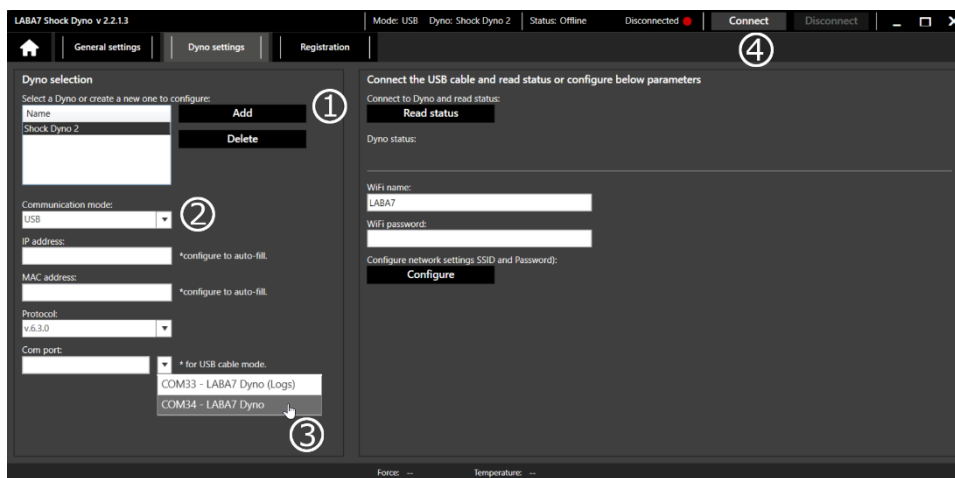

Figure 20
6. Press “add” (Figure 20 – Step 1).
7. Select the USB communication mode (Figure 20 – step 2).
8. From 2 newly appeared com-ports select **COM6 - LABA7 Dyno** (Figure 20 – Step 3)
9. Press “connect” (Figure 20 – step 4).